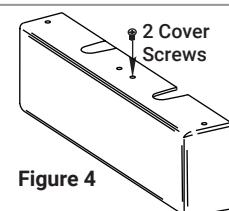

Figure 4
9. Install cover (Figure 4) OR make adjustments.